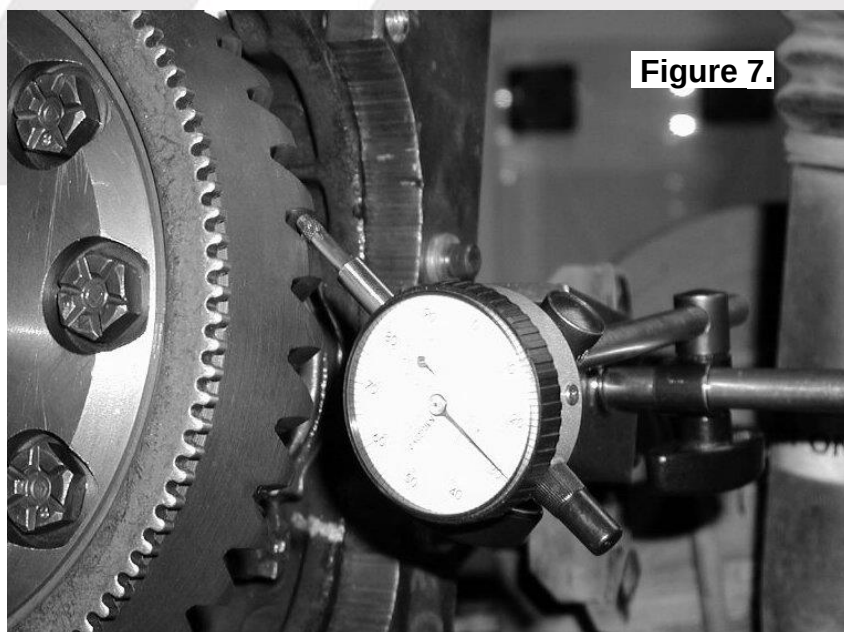

Figure 7.
- ☐ Set a depth indicator on one of the ring gear teeth. (Fig.7.)